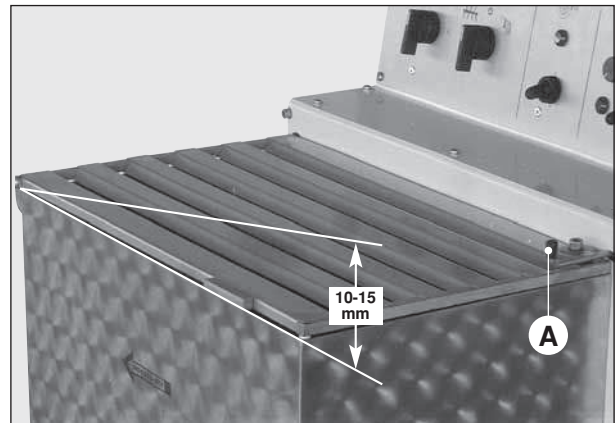

Fig. 33
- Check the efficiency of the double safety device on the lid. The device sets off two micro-switches; one is controlled by the lid hook (Fig. 33 A), inside the stop slot; and the other from the lid itself. To check this, make sure that microswitch in the slot begins to be enabled when the hook has not yet gone out of the slot itself. The lid microswitch must be heard to click when the lid is lifted approx. 10 - 15 mm. (Fig. 33).